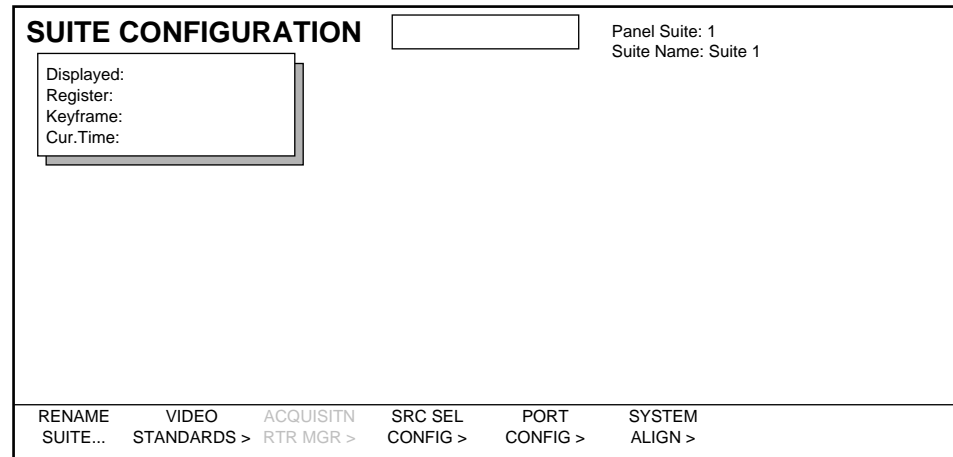

Figure 3-17. Suite Configuration Menu
1. From the System Configuration menu, press SUITE CONFIG >. You can also reach to the Suite Configuration menu by pressing System Setup \ SYSTEM CONFIG > \ OK \ SUITE CONFIG > (Figure 3-17)